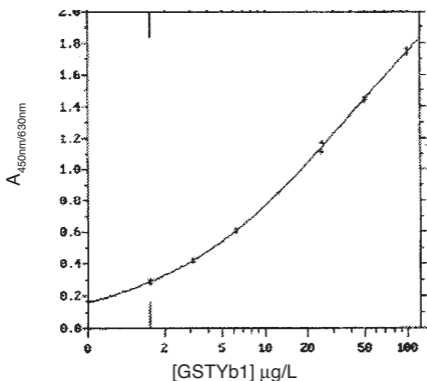

Figure 1: Typical Calibration curve obtained using the Biotrin GSTYb1 EIA. Lin-log plot of  $A_{450nm/630nm}$  versus  $[GSTYb1] \mu g/L$ .
2. Plot a calibration curve of  $A_{450/630nm}$  versus [GSTYb1] ( $\mu$ g/L) (Lin-log plot). (See Figure 1).